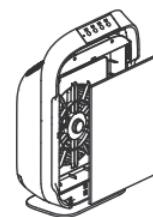

Fig. 4
5. Remove the activated carbon filter (4) (Fig. 4).